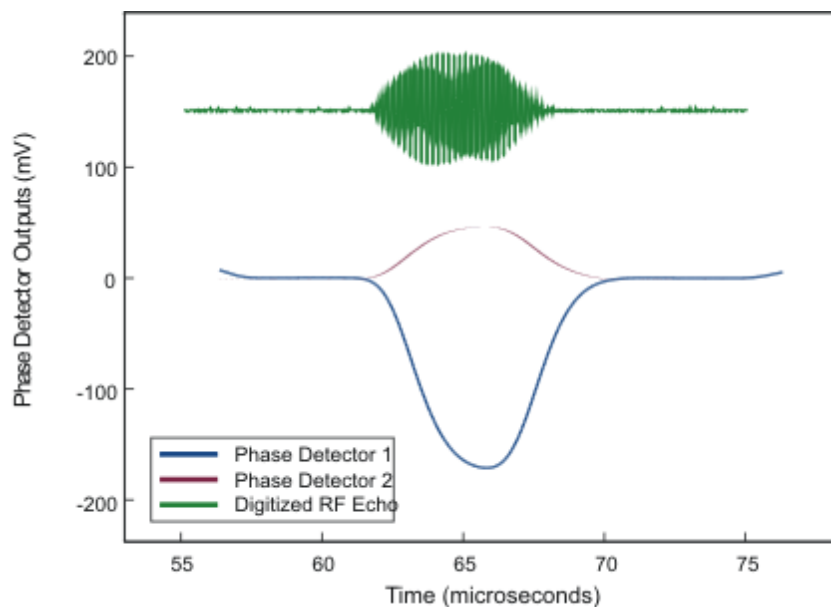

Figure 2-3. Typical Phase Sensitive Detector Output.
11. While observing one of the "Phase Detector Mon. -20 dB" test points (using a high impedance oscilloscope input), set the oscilloscope sensitivity at 100 mV/cm. Check that an in-phase condition exists by changing the frequency of Synthesizer No. 1 in very small steps. If the gain has been set properly in step 10, the signal should not exceed ± 200 mV for an in-phase signal. A typical waveform is shown in Figure 2-3.